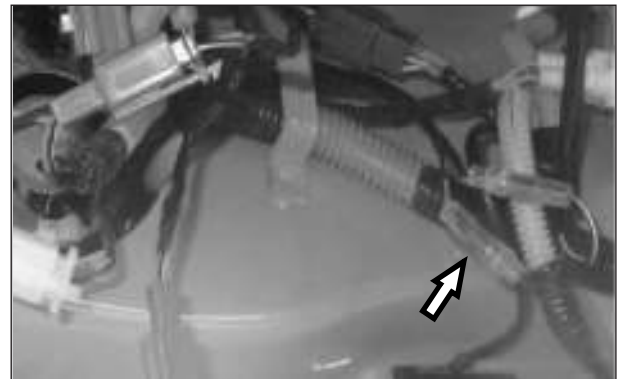

Fig. 9.32
- Connect Cord set cabin lamp, main to Front wiring harness.(Fig. 9.32)
- Ensure the proper matting connection cord set cabin, main. (Fig. 9.32)